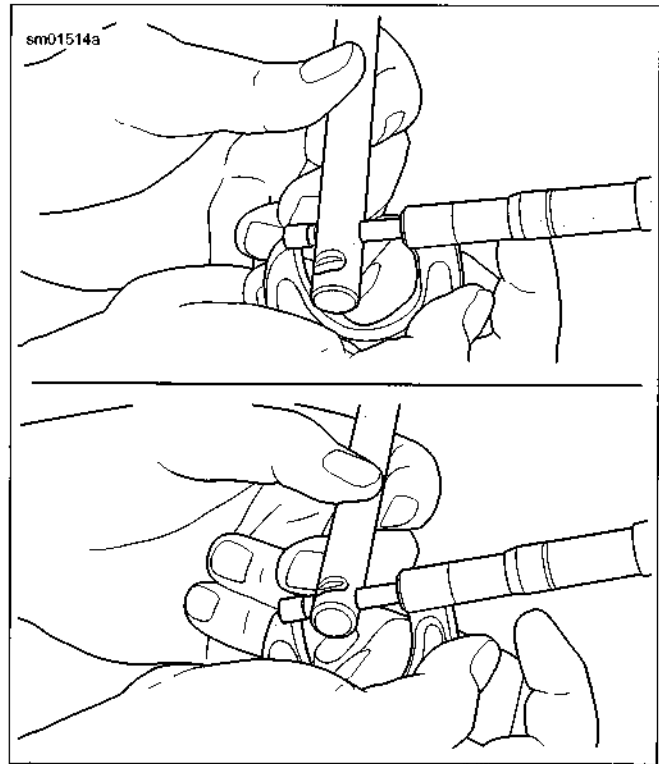

Figure 3-28. Measuring Rocker Arm Shaft Diameter at Bushing Position (top) and Cover Position (bottom)
2. See Figure 3-28. Measure and record rocker arm shaft diameter at the positions where rocker arm bushings ride and where shaft fits in inner rocker cover.